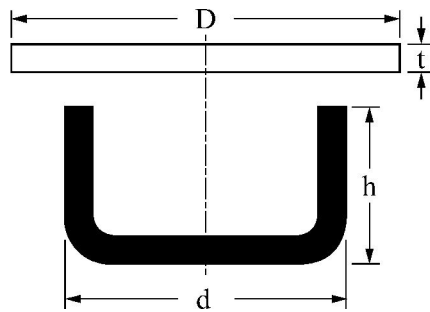

Fig. 3
- (a) The Figure 3 given below shows a cup to be drawn.